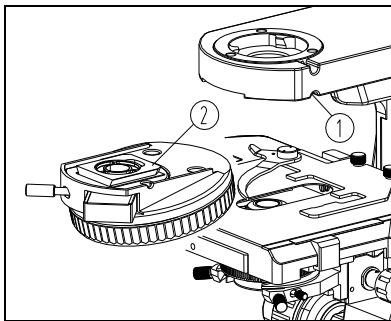

Fig.6
- (1) Loose the lock screw ① on the arm. (See Fig. 6)
- (2) Match the dovetail interface ② of the nosepiece with the dovetail groove of the arm, and push it to the bottom. Tighten the lock screw ①.